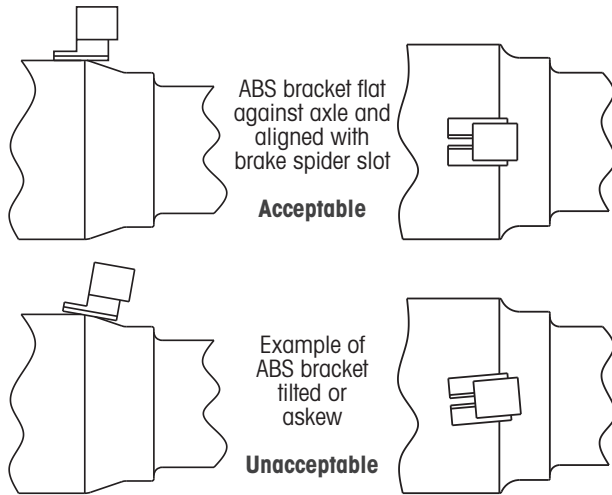

Figure 3: Properly positioning ABS bracket
- Ensure** the ABS bracket is flat against the axle and properly aligned. The ABS bracket must not be tilted or askew (Figure 3).